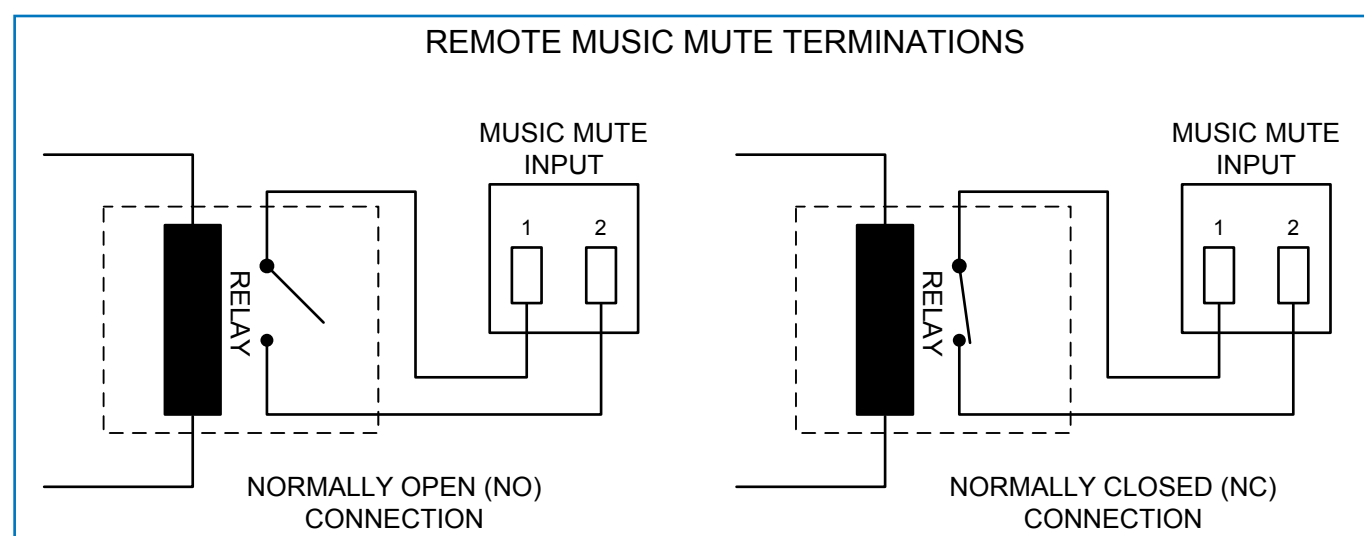

fig.6: Remote Music Mute
Activation of the Music Mute is often via a relay mounted close to the MPA Series amplifier, powered by the fire alarm control panel. Other arrangements may exist depending on the design of the fire control system and the fire alarm installation company should be consulted when making the connection. The MPA Series amplifiers will mute on either a contact closure at the Music Mute input (NO) or an open-circuit (NC). Selection of NO or NC operation is made with internal jumper J14. NO is the factory default. See *fig.6*.